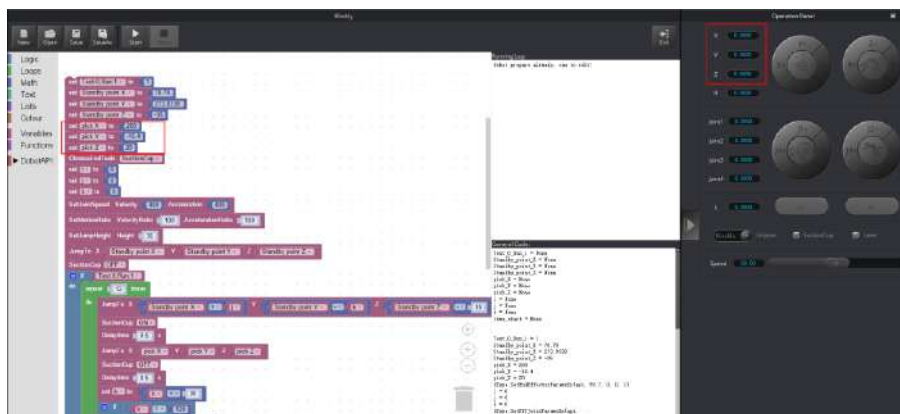

Figure 4.4 Modify the placing position
2. Unselect **SuctionCup** to put down blocks on the conveyor belt. The operation panel on the DobotStudio will record the values of X, Y, Z axes automatically, and write the values of the X, Y, Z axes in the picking demo as shown in Figure 4.4.